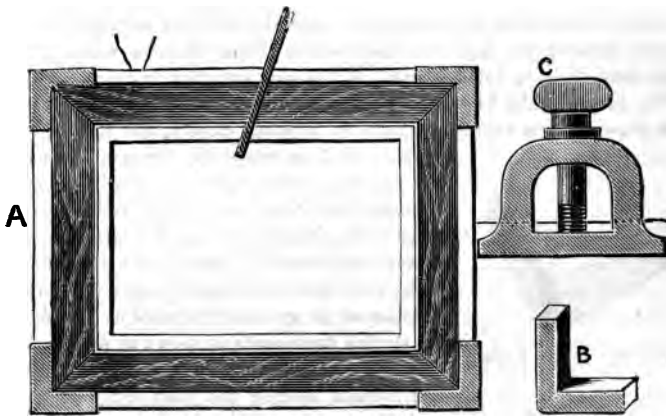

FIG. 9. CLAMPING FRAME, WITH STRING.
There is another way of clamping a frame together while the glue is drying which will often answer very well—viz., tying it round with a bit of stout twine, first putting on corner pieces at the angles. Fig. 9 (A)
represents a frame thus secured, and B a corner piece. Sometimes this plan is further elaborated by some special appliance for tightening the cord. The simplest is to insert a bit of stick in a double string, and to twist the latter the same as in a carpenter's turn or bow saw. Another is to place wedges under the string, or to use a clamp like Fig. 9 C, winding the string as in tightening a fiddle-string. Whichever plan is used, the frame, when put together, should be placed on a flat board or bench, to insure its being out of twist. In any case, moreover, it should be put together first without glue or nails, to test the accuracy of the mitred joints, as it may happen that another light stroke of the plane may be required to make the bevelled pieces lie quite close together.